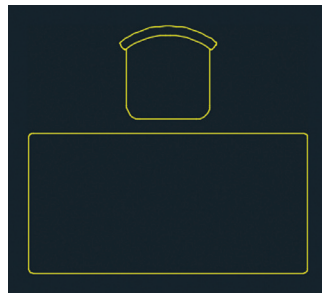

FIGURE 7.10 Chair block inserted above the desk
5. Hold Shift, right-click, and choose From in the context menu. Click the centroid marker at the center of the desk, type @0,1'6 (or @0,45 for metric), and press Enter. The Chair block reference appears slightly up from the edge of the desk on its centerline (see Figure 7.10).